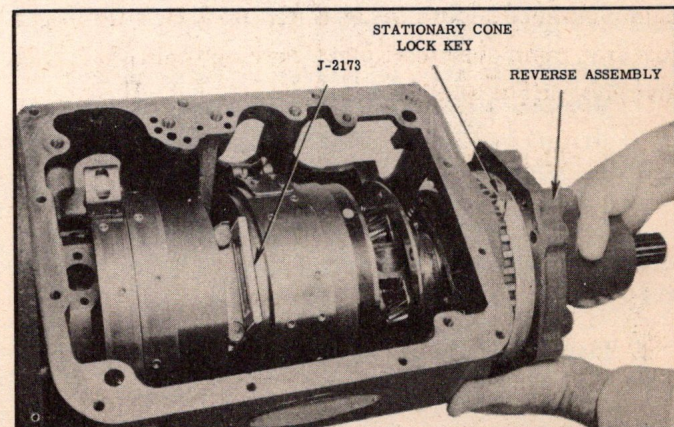

Fig. 128—Removing Reverse Assembly
3. Install screw driver or spacer J-2173 between the center bearing cap and rear clutch drum to prevent the drum from moving forward. The screw driver should be placed at an angle to prevent damage to the oil delivery sleeve (Fig. 128).
4. Remove five rear-bearing-retainer-to-transmission-case attaching bolts and lock washers. Carefully remove reverse assembly from transmission case (Fig. 128). If assembly sticks, tap on front end of main shaft with rawhide or similar type hammer. Remove stationary cone lock key.